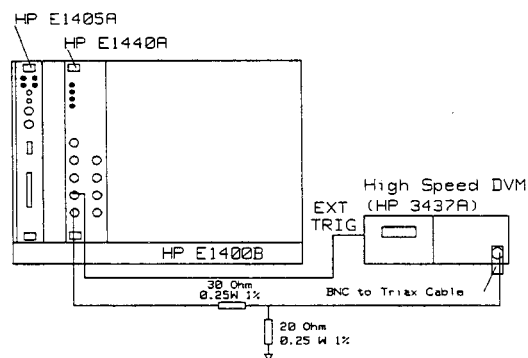

Figure C-13. Triangle Linearity Test Set-Up
1. Connect the HP E1440A and the high-speed voltmeter through the divider as shown in Figure C-13.